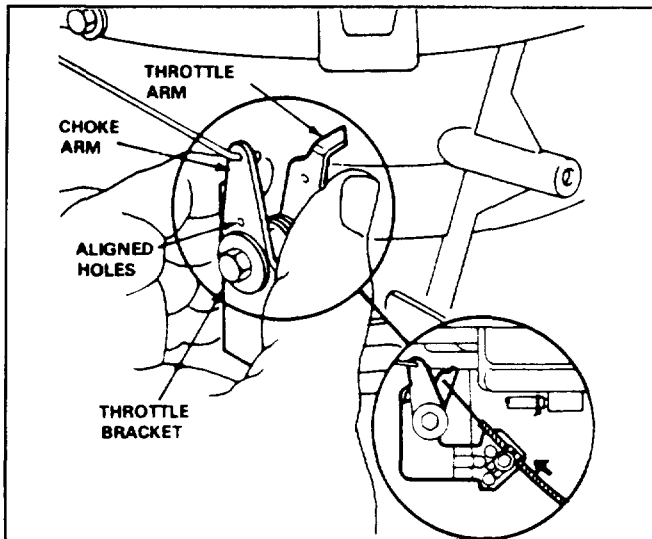

Figure 10
3. Loosen cable clamp screw until throttle cable slides (Fig. 10).
4. Check to see if holes in choke arm and throttle bracket are aligned (Fig. 10). If not, follow adjustment procedure in step 5.
5. **ADJUSTMENT**—Use a small diameter pin to align holes in choke arm and throttle bracket. Push throttle cable until throttle lever contacts choke arm (Fig. 10). Tighten cable clamp screw to lock adjustment in place. Remove pin.